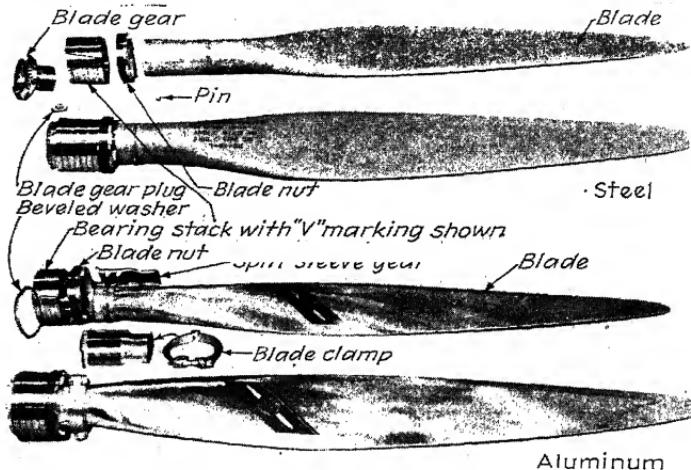

FIG. 57.—General construction of Curtiss steel and aluminum blades.
*Disassembly of Aluminum Alloy Blades* (Fig. 57).—Remove the nut from the blade gear clamp bolt and remove the clamp. If it is not a hinged clamp, screw it off the blade gear sleeve and slide it out on the blade, being careful not to nick the blade.
*Disassembly of Hollow Steel Blades* (Fig. 57).—Tap the bearing stack toward the blade tip, using brass or aluminum blocks to cushion the blows, until the pin through the blade and blade gear is exposed.
*Aluminum Alloy Blades* (Fig. 57).—Lay the blade on a clean assembly bench with the shank overhanging the edge of the bench.
*Steel Blades* (Fig. 57).—Lay the blade on a clean assembly bench with the shank overhanging the edge of the bench.